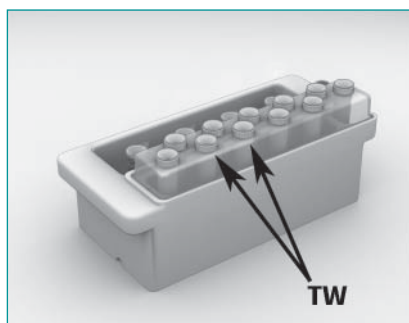

Figure 7: All reagents loaded into the Reagents cassette, for a maintenance wash Run
- 2 Empty any waste fluid from the Reagents cassette, and load the two Reagent trays from the GS FLX Maintenance Wash Kit into the Reagents cassette: the 4-tube Maintenance Wash Buffers tray on the left-hand side and the 11-tube Maintenance Wash Reagents tray on the right-hand side, reflecting the “Buffer CB” and “Sequencing Reagents” of the GS FLX Titanium Sequencing Kit XLR70. The 4-tube “Maintenance Wash Buffers tray” should sit at the bottom of the left-hand side of the Cassette, as shown in Figure 7.